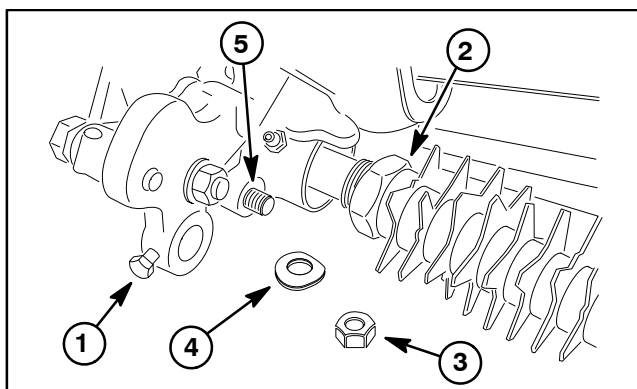

Figure 19
B. Remove lock nut and spring washer that secure LH groomer arm lift rod to support plate (Fig. 19). Remove support plate from cutting unit.
C. Place spring washer and lock nut on lift rod threads (Fig. 19). Tighten lock nut.